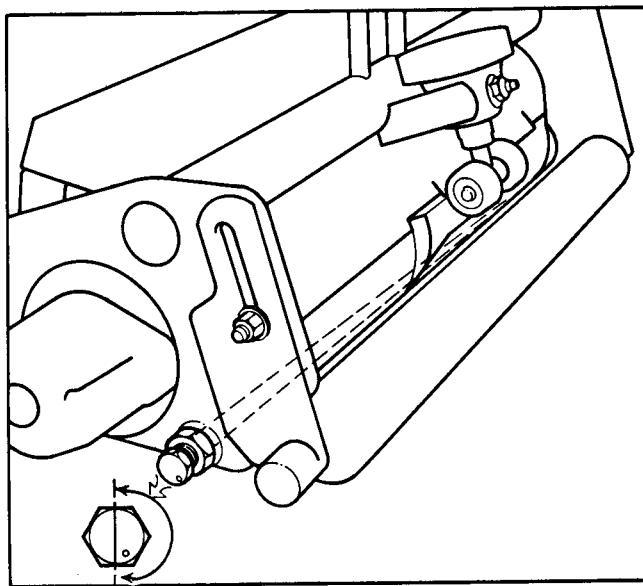

Figure 9
4. Loosen jam nut on left hand bedbar pivot bolt so bolt can be turned. Left hand pivot bolt (eccentric bolt) has offset thread which, when rotated, acts as a cam to raise or lower the bedbar. Identification dot on bolt head denotes offset of bolt. When dot is in up position (Fig. 9) left end of bedbar is raised. As bolt is turned clockwise and dot is lowered, so is left end of bedbar. Identification dot must be positioned within rear ( $180^\circ$ ) position when adjusting.